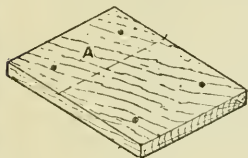
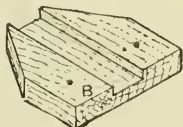

Fig. 16
Fig. 17
Figs. 16 and 17.—Details of Home-made Plough
Home-made ploughs are serviceable tools, and can be constructed from simple material, such as a chisel, some pieces of wood, and a few screws. Knock off the handle from an ordinary $\frac{1}{2}$ -in. chisel having a "shoulder" near the haft, and replace it with a cork; cut to the shape of Fig. 16 a piece of thin wood (say $\frac{1}{4}$ in. thick) $2\frac{1}{2}$ in. in breadth, its length depending on the length of the chisel. Place the chisel on the wood so that the cutting end overhangs about $1\frac{5}{8}$ in.; at the other end mark where the shoulder of the chisel touches the wood, and cut across just above the mark so that the shoulder falls over the edge and allows the chisel to lie flat on the wood. Cut another piece of wood thicker than the last (of full $\frac{1}{2}$ -in. stuff) to the shape of Fig. 17.
B. Put the second piece of wood, groove downwards, on the first one so that the square end B of Fig. 17 rests upon the portion marked A of Fig. 16, allowing the pointed end to overhang. Screw the two pieces together from underneath, taking care
to countersink the screw-heads. In the tunnel thus formed insert the chisel with its *bevelled edge upwards*, as it must always be when in use, and see that it has a rather loose fit. If it is all right, the cutting edge will project about $\frac{3}{8}$ in. at one end, and the shoulder will just fall over the edge at the other end. In a piece of wood c (Fig. 18), measuring, say, 2 in. by $\frac{1}{2}$ in. by $\frac{1}{2}$ in., make a groove of the same width as before, but a trifle deeper than the groove is at B (Fig. 17). Screw this last piece to the foundation A (Fig. 18) so that the groove en-
of course, intended to be pushed to and fro upon the right cheek of the press; but the tool, as it stands, will not cut straight through so as to leave a nice flat surface, but will rise until it has made a "hog's-back." To prevent this, provide a bar of wood *H* (Figs. 18 and 19), which should be fixed at one end to the top *G* of the plough, and should rest at the other end on a guide-rail *J* fixed to the top face of the left cheek of the press. The bar should be rigid, say of $\frac{1}{2}$ -in. stuff about 8 in. long, and be fixed to the plough with two screws. The top surface of the rail must be level with the top face of *B* (see Fig. 18); the easiest way to effect this will be to make the rail *J* of the same stuff as Fig. 17, and let it stand at each end on feet *L* (Fig. 18), made of the same stuff as Fig. 16. The bar will then lie quite horizontal across the press. Notice, too, that the rail *J* should be set back 1 in. or more from the inner edge of the left cheek, otherwise it will interfere with the "backing" operations.